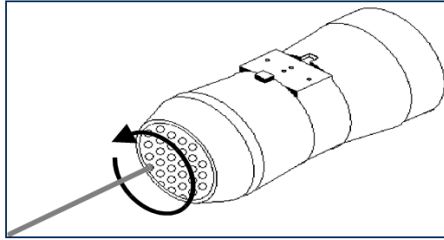

Figure 1
1. Insert a rigid device, such as a small rod, into any hole near the edge of the screen (see Figure 1).